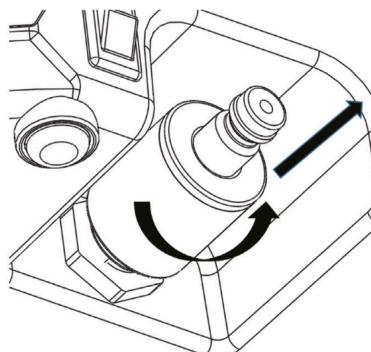

Fig. 8 Schematic diagram of filter replacement
5.1.3 Check the air inlet interface filter once a month to confirm whether there is impurity in the filter. If there is impurity, replace the filter in time, and check the cleanliness of the air compressor and the environment where it is located. If there is no impurity, it is recommended to replace the filter every 24 months. Spare filters are included in accessories. The way to replace filter are shown in Figure 8.